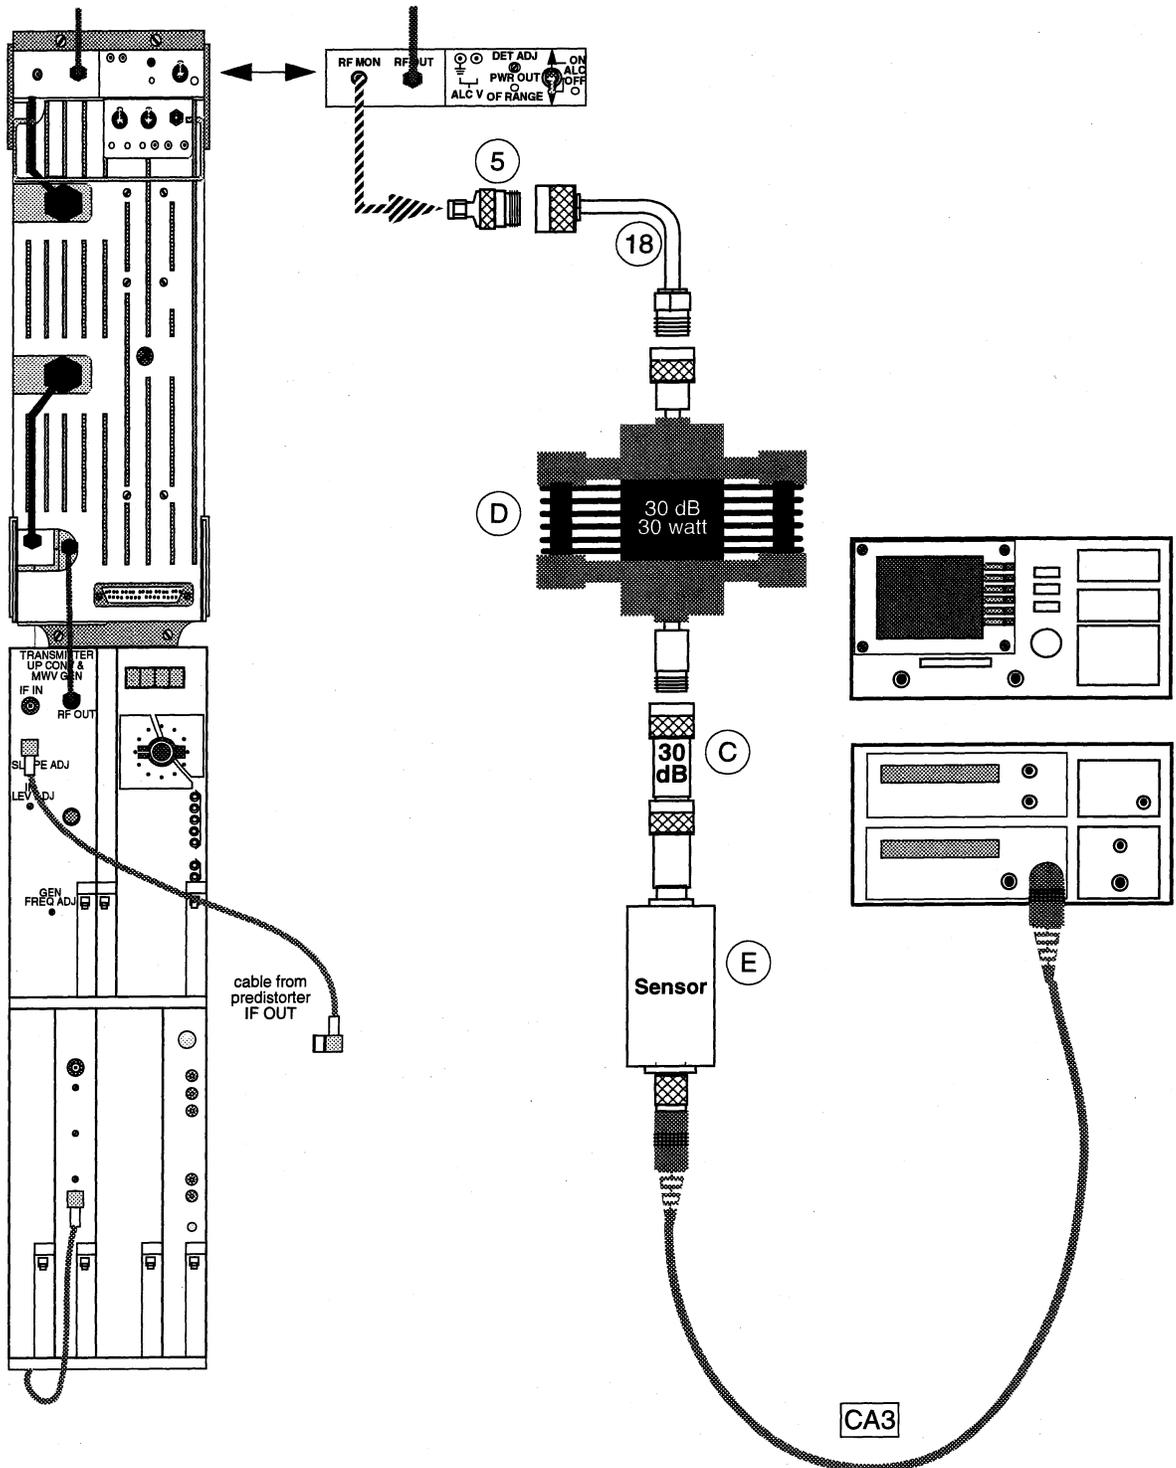

Figure 11. RF MON Power Measurement—TWT
- 35 Disconnect the 20 dB attenuator (item F) from the right angle adapter (item 18) and connect the test equipment as shown in Figure 11.